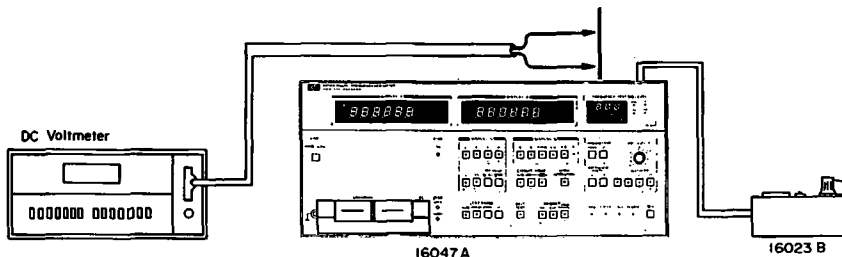

Figure 5-14. A21 (or A23) Internal DC Bias Supply Adjustment (0 to  $\pm 35V$ ).
b. Set 16023B DC Bias Controller thumbwheel switch to 0.00 and connect its 24 pin male connector to BIAS CONTROL connector on the rear panel of the 4274A. See Figure 5-14.
- b. Set 16023B DC Bias Controller thumbwheel switch to .000 and connect its 24 pin male connector to Bias Controller connector on the rear panel of 4274A. Refer to Figure 5-14 except for the difference in test pins and board number.